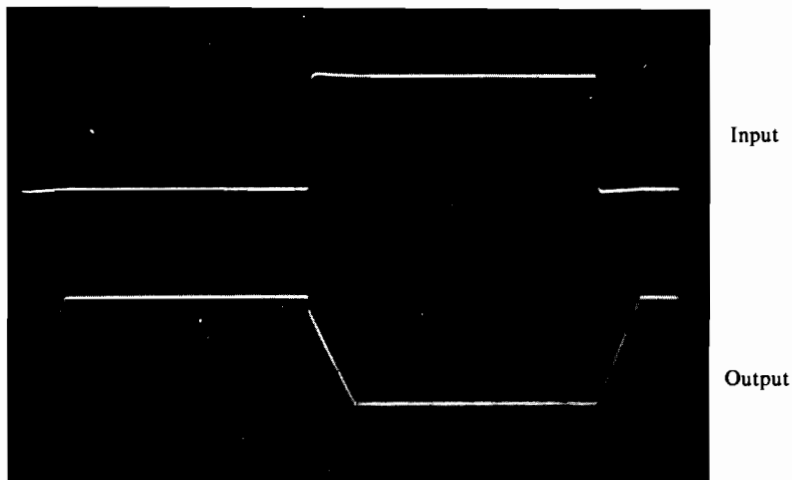

FIGURE 30-3
2. Apply power to the breadboard, and adjust the square-wave input signal at 5 V peak-to-peak with a frequency of 10 kHz. The output signal should have a trapezoidal shape, as shown in Figure 30-3. If the operational amplifier were ideal (that is, infinite slew rate), the output signal would look exactly the same as the input at very high frequencies. In reality, it takes a finite amount of time for the large-signal amplifier to switch from one voltage extreme to the other.